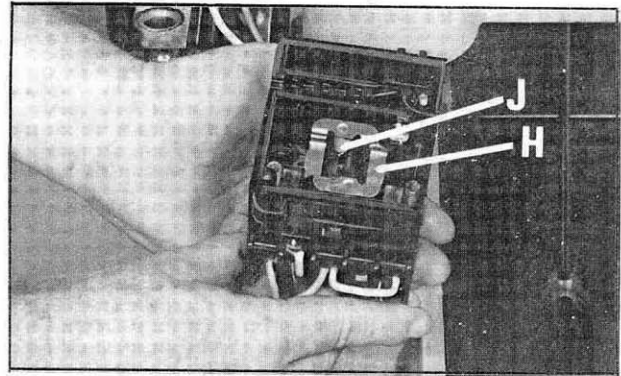

Fig. 33
6. Remove plate (H) and two springs, one of which is shown at (J) Fig. 33.